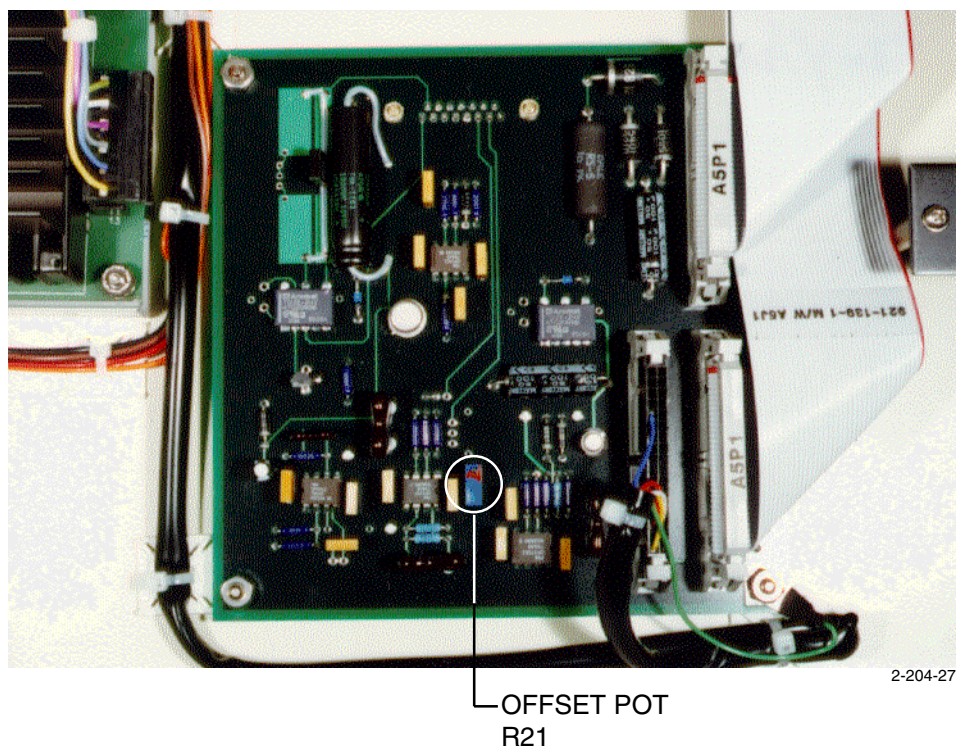

Figure C.2 Resistance CCA Offset Pot Location
- Step 5 Press the TEST/READY switch once. The unit displays the offset values for the resistance current source channel. Figure C.2 identifies the location of the offset potentiometer (pot) and the corresponding pot designator which is displayed by the unit.